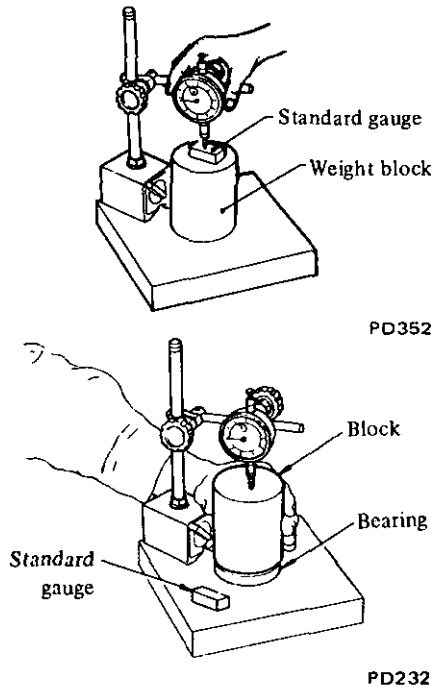

Fig. PD-19 Measuring bearing width
8. Measure bearing width with a standard gauge [21.00 mm (0.8268 in) thickness] and a weight block [about 2.5 kg (5.5 lb)] prior to installation. See Figure PD-19.